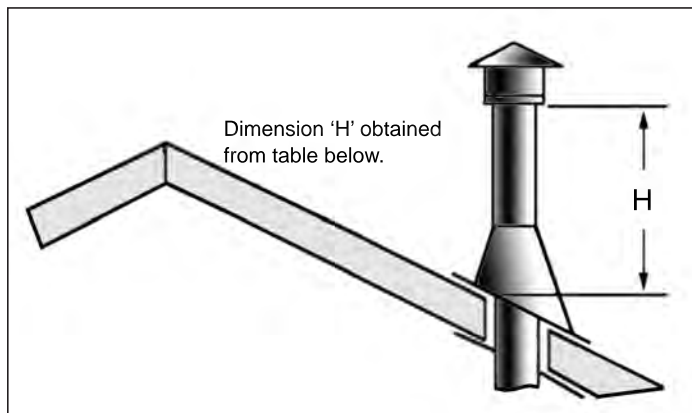

Figure 49. Height of Vertical Termination; Reference Table 8.
- STEP 9.** Slip the storm collar over the pipe, and push it down to the top of the roof flashing as shown in Figure 49. Use the non-hardening sealant around the joint between the pipe and the storm collar.